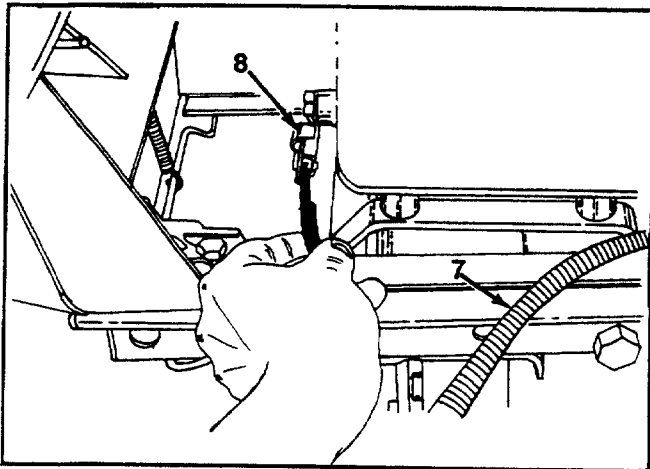

FIGURE 7.
8. Pull the cable clamp back enough to allow removal of wire harness connector located at front left hand side of engine. See figures 7 and 8.